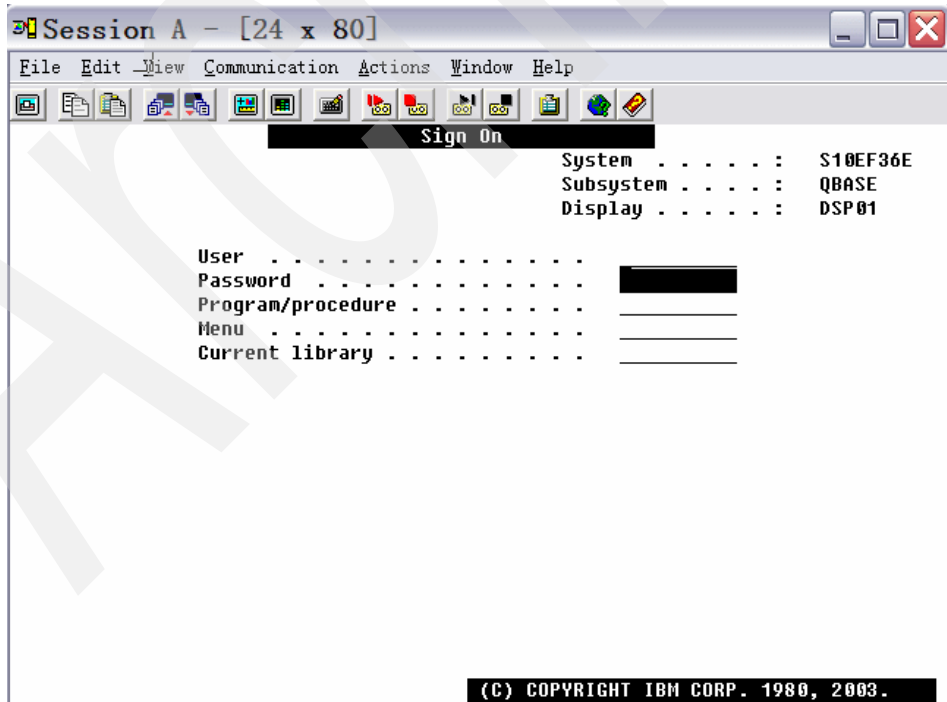

Figure 2-10 Remote 5250 console-sign on screen
7. When the window in Figure 2-10 prompts you, type the correct i5/OS user ID and password to manage this system.